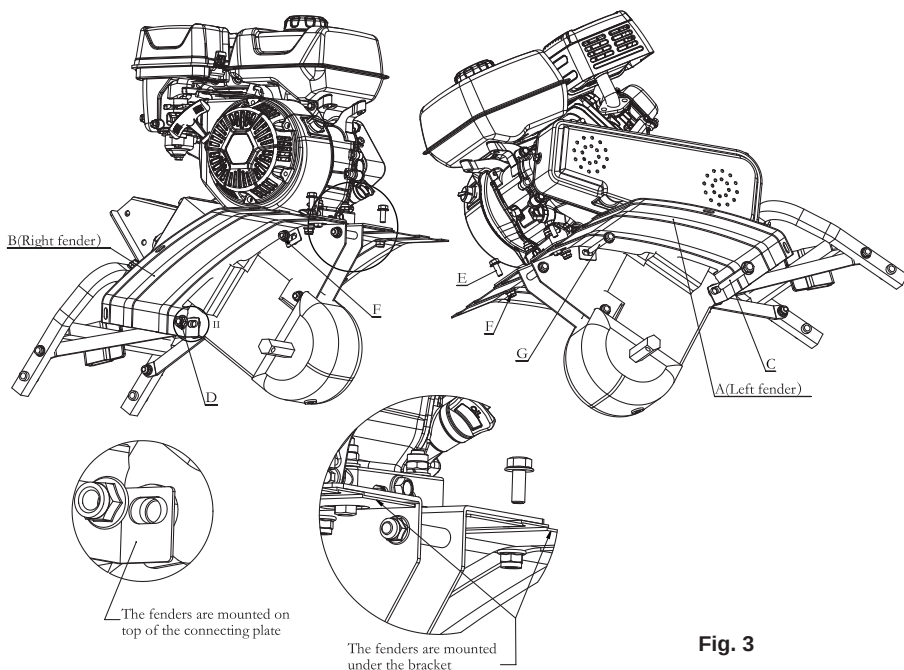

Fig. 3
Step 3 Assembly of the left/right fender (See Figure 3)
- Assemble the right fender (B) to the frame kit, at front side, screw using M8x16 bolt (E) and 1 M8 nut (F), the fender is underneath, do not tighten nut completely.
- At rear side, put the connecting plate of wheel bracket in the middle between right fender and frame kit, screw using 1 M10x100 bolt (C) and 1 M10 nut (D), do not tighten nut completely.
- In the middle position of frame, use 1 M8x70 bolt (G) and 1 M8 nut (F) to connect the left and right fenders.